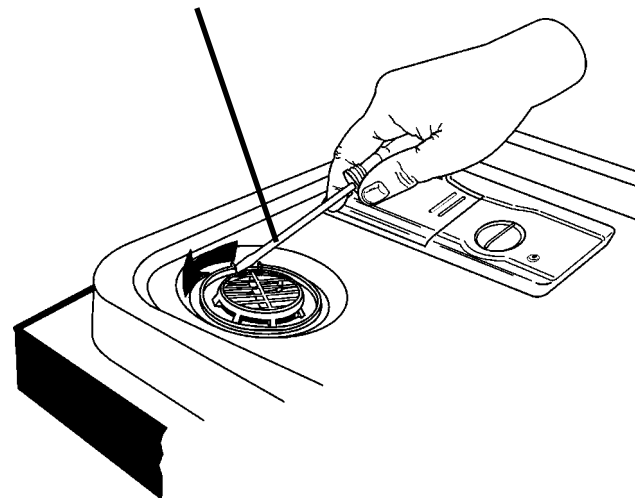

Fig. 3-6
1. Remove the six (6) screws securing the control panel to the door frame.
4. Using a flat bladed screwdriver in the slot provided at the bottom of the interior vent grille, turn the vent grille counterclockwise  $\frac{1}{4}$  turn and remove the grille. (Fig. 3-6)